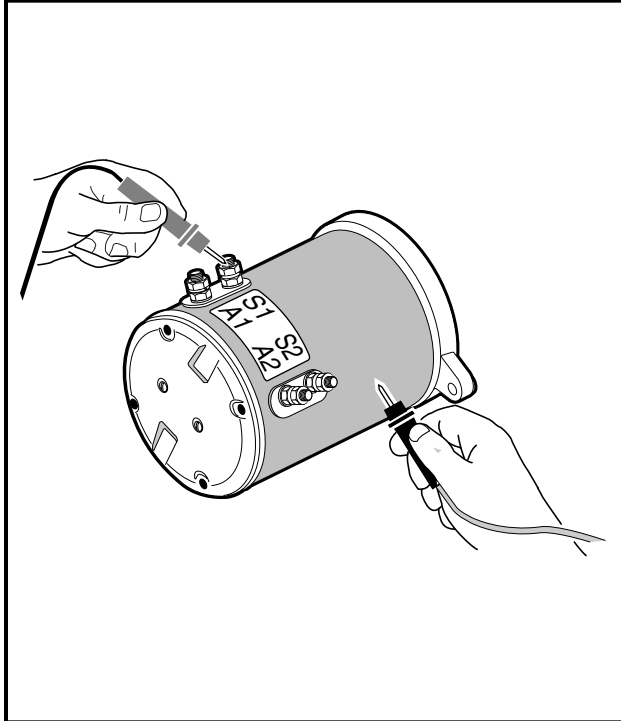

Figure 15-1 Motor Short Circuit Test
3. Set a multimeter to 200  $\Omega$  (ohms) and place the black (–) probe on the motor housing. Scratch through the paint to ensure a good connection. Place the red (+) probe on the A1, A2, S1, and S2 terminals respectively (Figure 15-1, Page 15-2). Multimeter should indicate no continuity. If the readings are incorrect, the motor will need to be removed from the vehicle and repaired by a qualified technician. See Motor Removal on page 15-3.